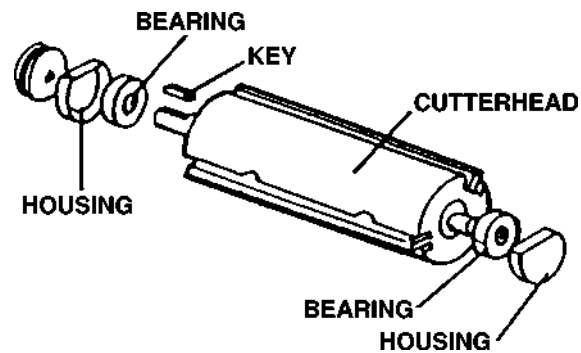

FIGURE 23
3. Remove bearing housings, Figure 23.